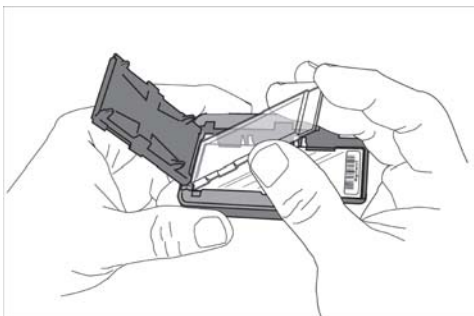

Figure 3 Inserting the ozone-barrier slide cover
- In environments in which the ozone level exceeds 5 ppb, immediately put the slides with Agilent barcode facing up in a slide holder. Make sure that the slide is not caught up on any corner. Put an ozone-barrier slide cover on top of the array as shown in Figure 3. Refer to the *Agilent Ozone-Barrier Slide Cover User Guide* (p/n G2505-90550), included with the slide cover, for more information.